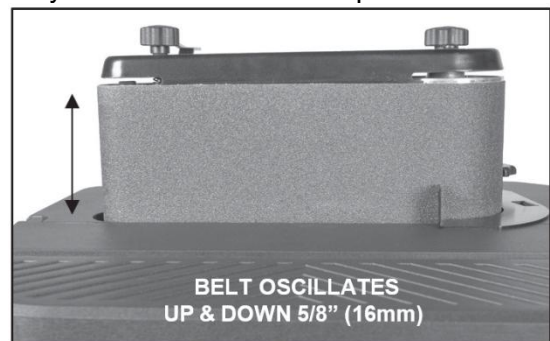

Figure 12: Belt Oscillation Limit.
1. Start the machine and wait until the motor has built up to full speed. The BBSDOSS Sander features a 2" x 4" Sanding Belt that automatically oscillates (moves up and down) 16mm (5/8"). This movement ensures that the Belt's sandpaper gets maximum sanding use along the belt and not wear in just one area. FIG. 12.